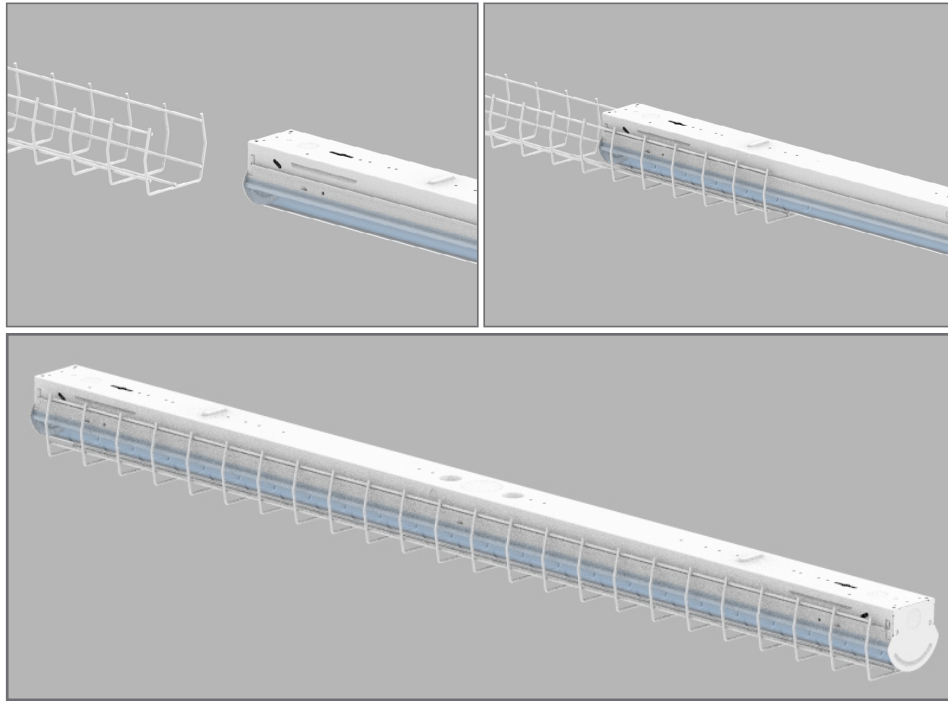

FIGURE 24
2. Slide the wire guard over the luminaire from one end of the fixture, as shown in Figure 24.